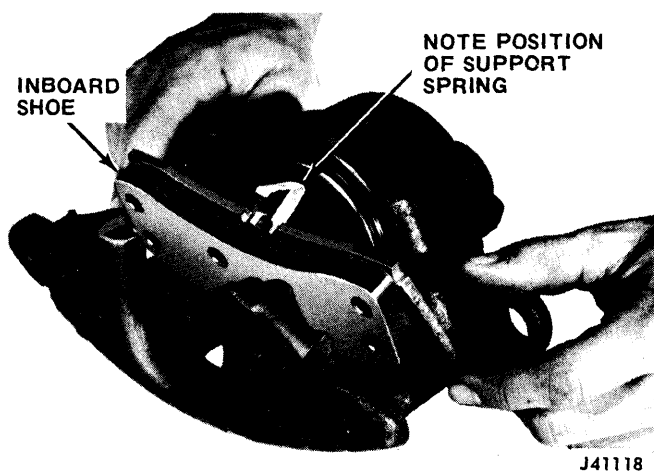

Fig. 9-31 Installing Inboard Brakeshoes
(13) Install inboard shoe in caliper (fig. 9-31). Shoe must lay flat against piston. Be sure support spring is fully seated in piston (fig. 9-31).
(14) Install outboard shoe. Ears on shoe should rest on top of ears in caliper. Bottom tab on shoe fits in cutout in caliper. Be sure shoe is fully seated.
(15) Install shoes and position caliper over rotor. Align mounting holes in caliper and support bracket and install mounting bolts. Be sure bolts pass under retaining ears on inboard shoes. Push bolts through until they